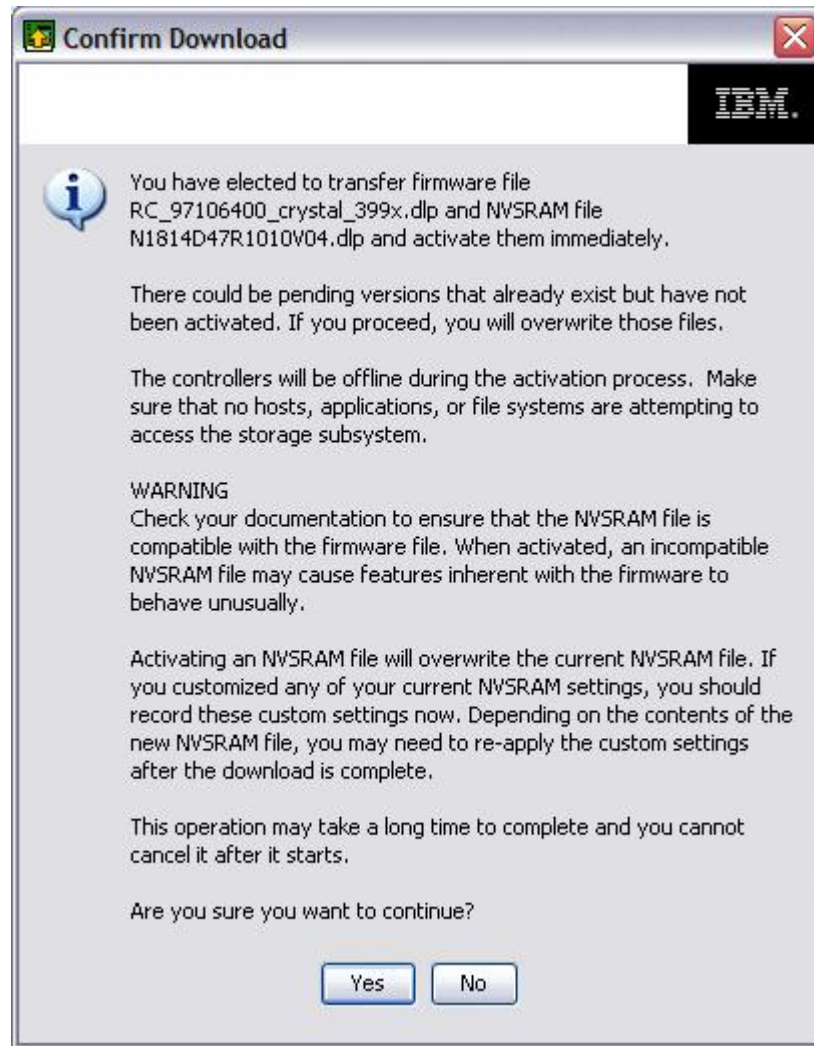

Figure 44. Confirming download
15. Select **N1814D420R1036V12.dlp**, and click **OK**. The dialog shown in Figure 44 on page 59 is displayed.